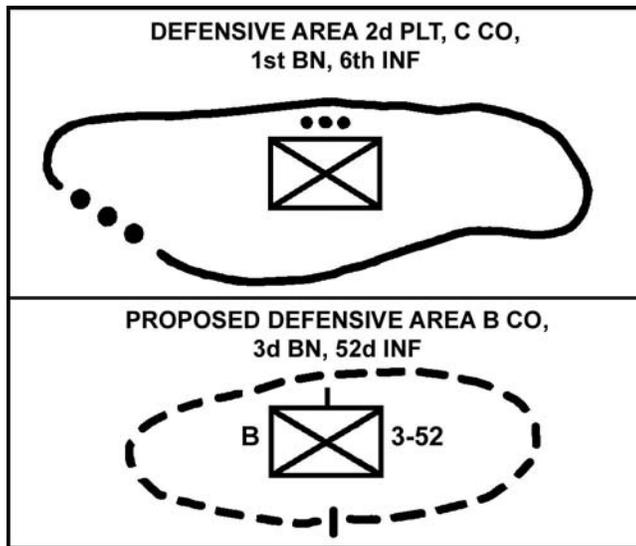

Figure 071-332-5000-18. Defensive area.
- (1) Line of departure (LD). The LD is a control measure to coordinate the advance of an attacking unit (figure 071-332-5000-19). The LD should be—